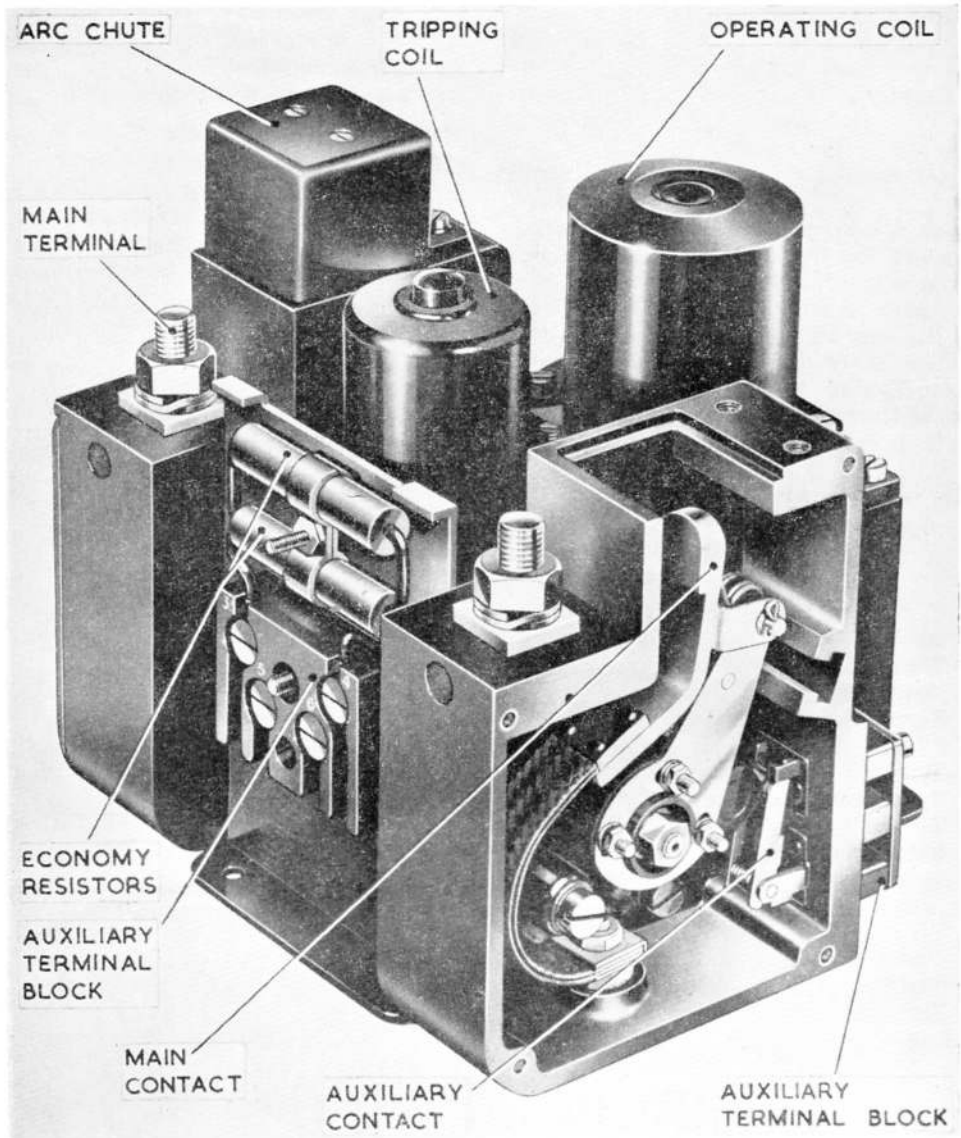

Fig. 2. View of switch, with covers removed
2. The unit is generally similar to others in the D 9400 series (*A.P.4343, Vol. 1, Sect. 11, Chap. 17*) with the exception that the bi-metal element is not fitted and that economy resistors (*Fig. 2 and 3*) are connected in parallel with the coil safety switch, so that the operating plunger is held in after the switch has latched as long as 28 volts are supplied to the coil terminals. A bus-bar replaces the bi-metal element and electrically connects the two moving contacts. In the absence of a bi-metal element, the switch may only be tripped magnetically or manually. The economy resistors are mounted above